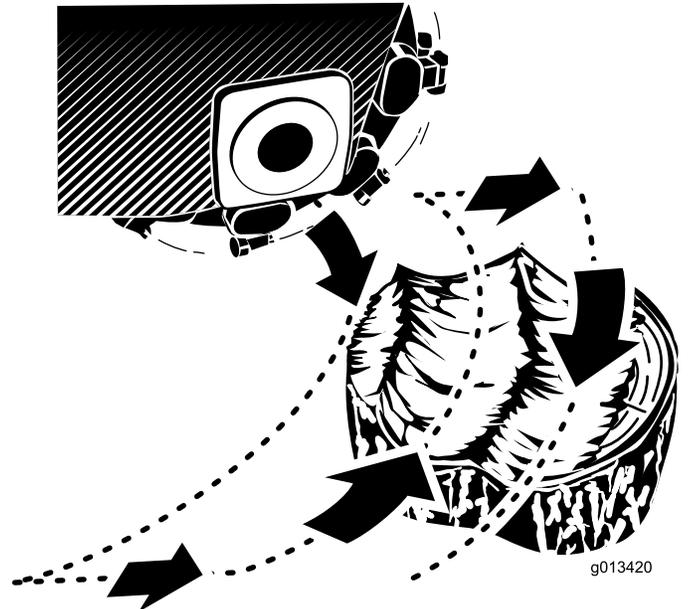

Figure 18
2. Use the grinder control lever and the traction control to position the grinder to the side of the front of the stump, about 2 cm (1 inch) below the surface (Figure 18).
4. Use the grinder control lever to swing the grinder slowly across the face of the stump, cutting away a swath of chips (Figure 18).
5. Move the machine forward a few centimeters (inches) and repeat step 4 (Figure 18).
6. Repeat steps 4 through 5 until you have ground off the entire face of the stump (Figure 18).